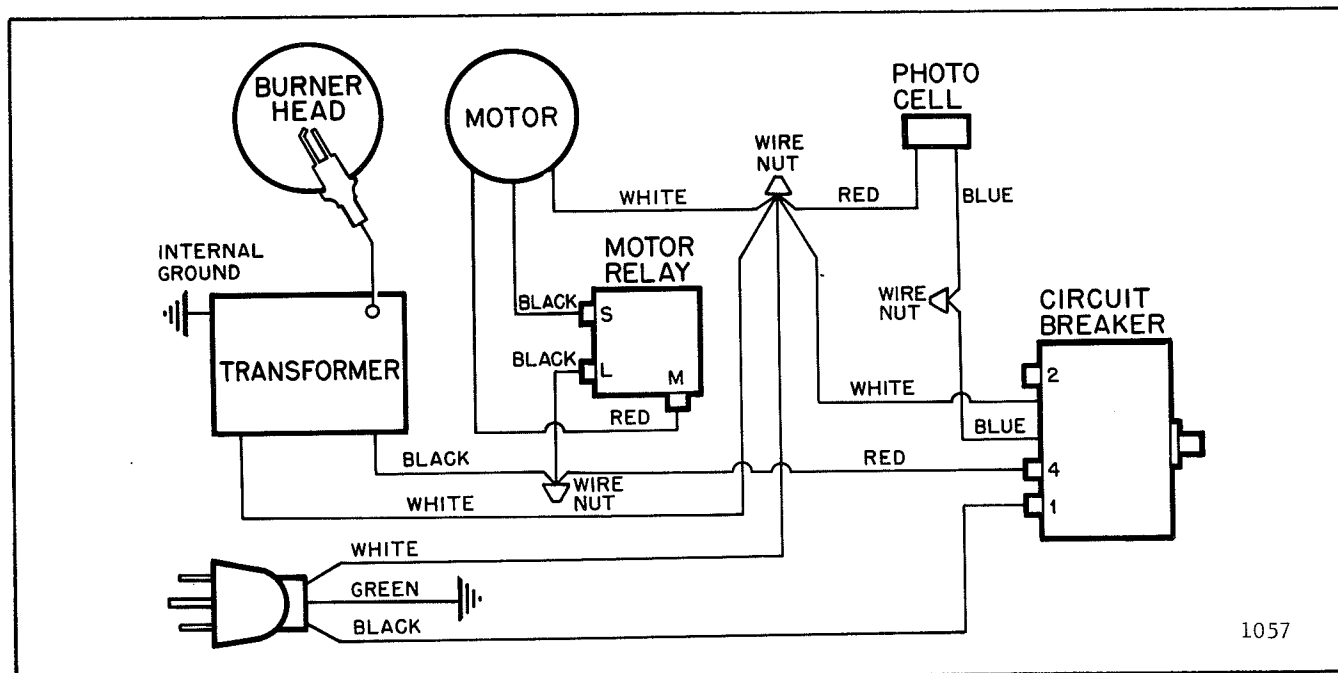

Figure 11. Wiring Diagram
5. Reinstall the attaching screws, and make wiring connections in accordance with Figure 11.
The heaters have 1/8 horsepower motors and separate starting relays. (See the Wiring Diagrams, Figure 11).